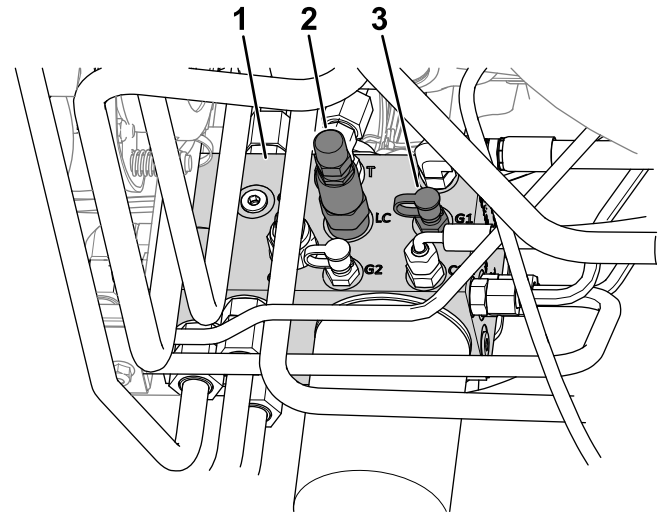

Figure 24
- Connect a pressure gauge to the test port (labeled G1; refer to Figure 24).
- Weight-transfer spool (LC)
- At the side of the lift manifold, remove the cap from the test port (labeled G1; refer to Figure 24).
- Loosen the jam nut at the end of the weight-transfer spool (labeled LC; refer to Figure 24).